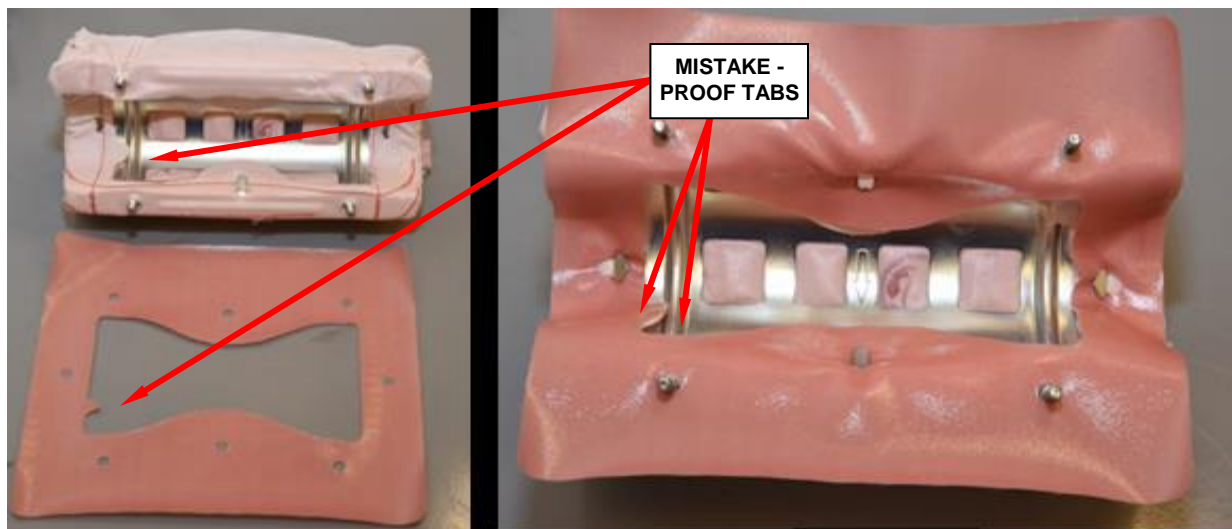

Figure 68 – Fabric Gasket to Cushion
- h. Place the fabric gasket, glossy side up, onto cushion. Mistake-proof tab should be aligned to the tab on the cushion (Figure 68).